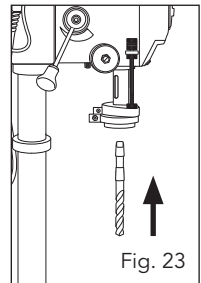

Fig. 23
4. Insert the new tool with tapered shank into the spindle (10) and guide it in until it stops. Turn until it slips a little further into the spindle. Jolt it upwards and then check that the tool is correctly seated (Fig. 23). Wear work gloves to protect your hands from sharp edges.